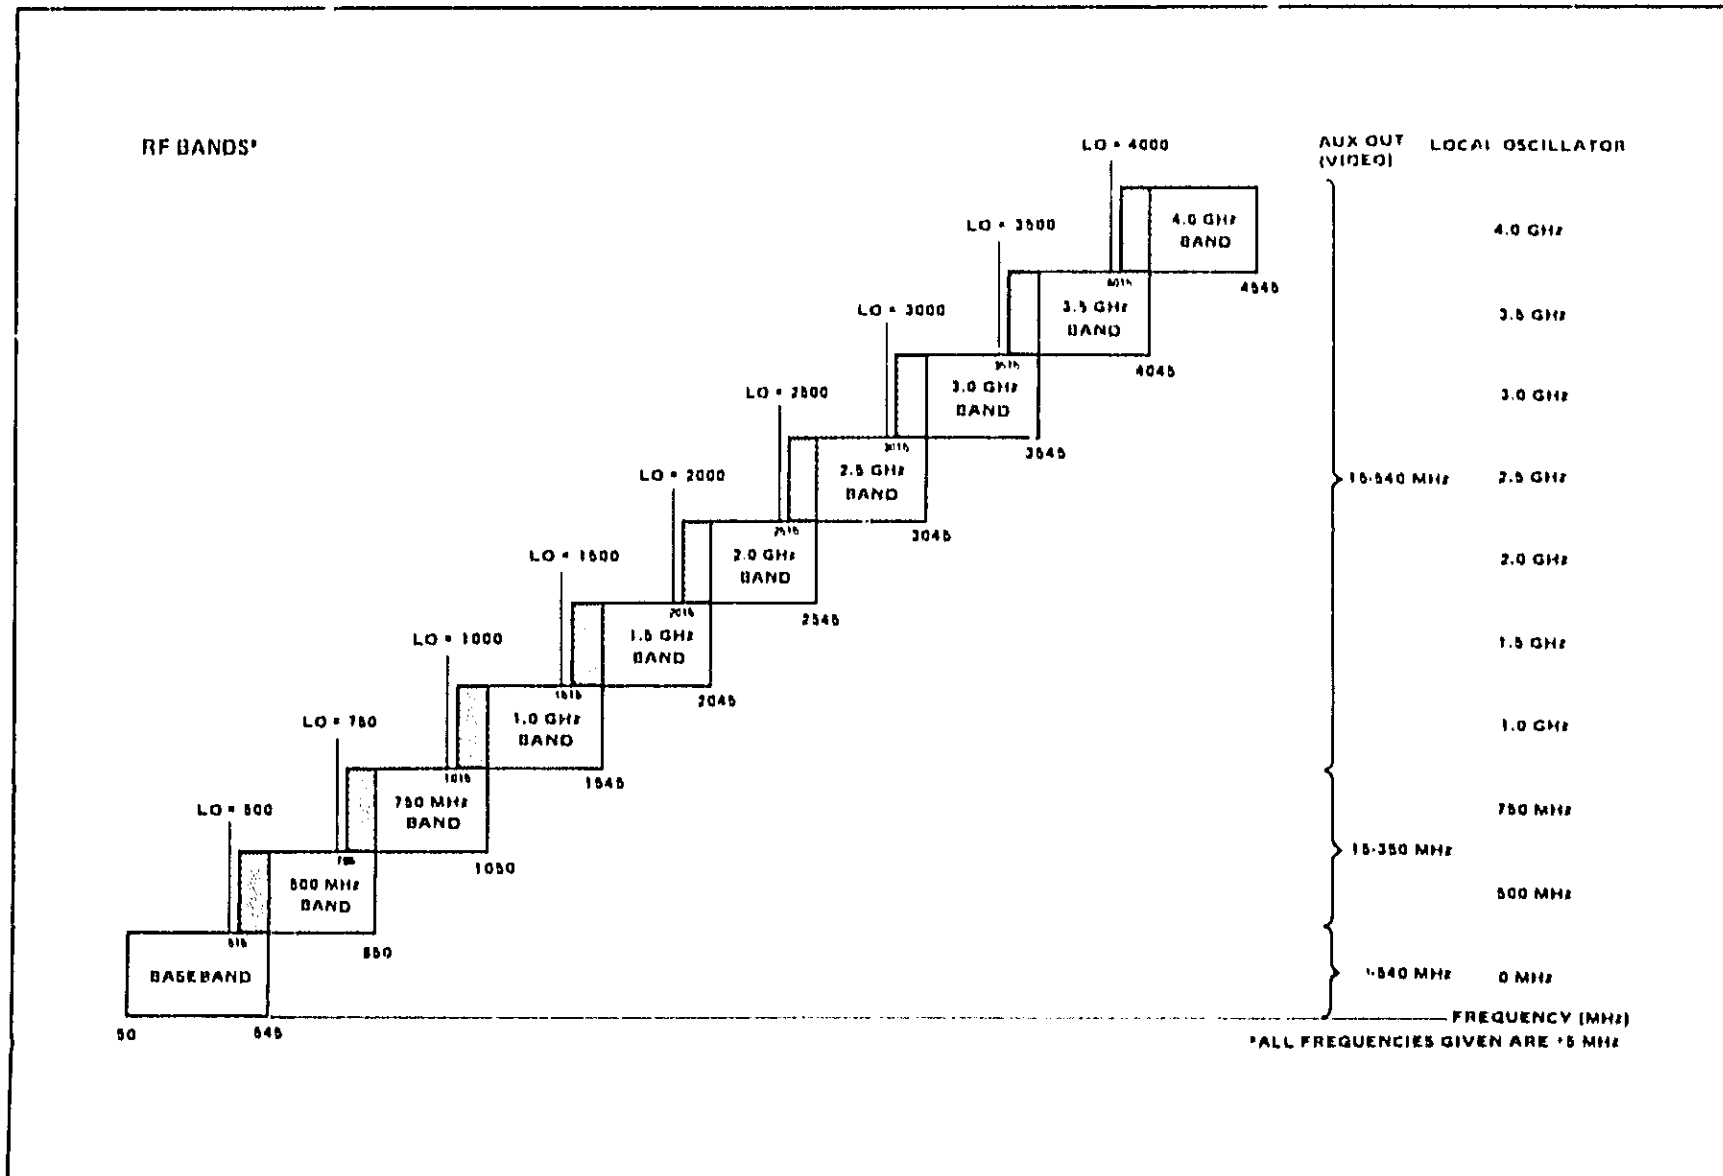

Figure 3-1. 50Ω Input Frequency Bands
3-11. For the 50-ohm input range of 50 MHz to 4.5 GHz, two modes of operation are available. In the AUTO mode, the counter searches for, selects, measures, and displays the lowest signal frequency within its sensitivity range. In this mode, the counter automatically steps through 10 frequency bands (low to high) as shown in *Figure 3-1* until a signal within the counter's range is detected.
- 5 AUTO-MANUAL slide switch. In the AUTO position, the 5341A automatically searches through the 10 bands and selects the lowest input signal frequency within its sensitivity range at the 50-ohm input connector. In the MANUAL position, the counter is restricted to measurements within one of its 10 bands as determined by the BAND SELECT switch. See paragraphs 3-11 and 3-12, and Figure 3-1 for a description of band ranges and overlap.
- 6 BAND SELECT pushbutton switch. Selects band of operation when the AUTO-MANUAL switch is in MANUAL. Each time the switch is depressed, the band selection steps up one band from low to high. See Figure 3-1 for band ranges and overlap.
- 6 For automatic operation, set AUTO-MANUAL switch to AUTO. For manual operation, set AUTO-MANUAL switch to MANUAL and press BAND SELECT switch until display indicates desired frequency band. See paragraph 3-12 and Figure 3-1 for frequency band selections.